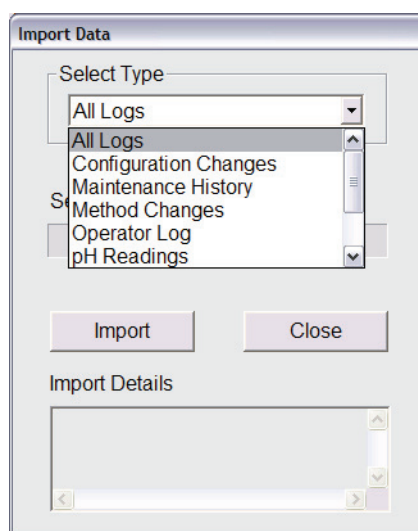

Figure 7.10. Import Data dialog box
4. Select **Import** to access the Import Data dialog box (refer to Figure 7.10).